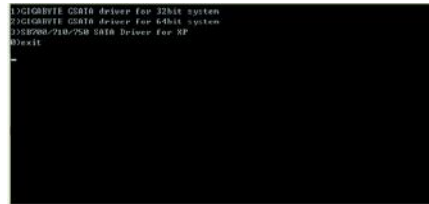

Figure 2
Step 2: When the controller menu (Figure 2) appears, remove the startup disk and insert the blank formatted disk. Select the controller driver by pressing the corresponding letter from the menu. For example, from the menu in Figure 2, to install Windows XP to your RAID/AHCI hard drives, select 3) SB700/710/750 SATA Driver for XP and press <Enter>. Your system will then automatically copy this driver file to the floppy disk. Press any key to exit when finished.
Use an alternative system and insert the motherboard driver disk. From your optical drive folder, double click the MENU.exe file in the BootDrv folder (Figure 3). A command prompt window will open similar to that in Figure 2.